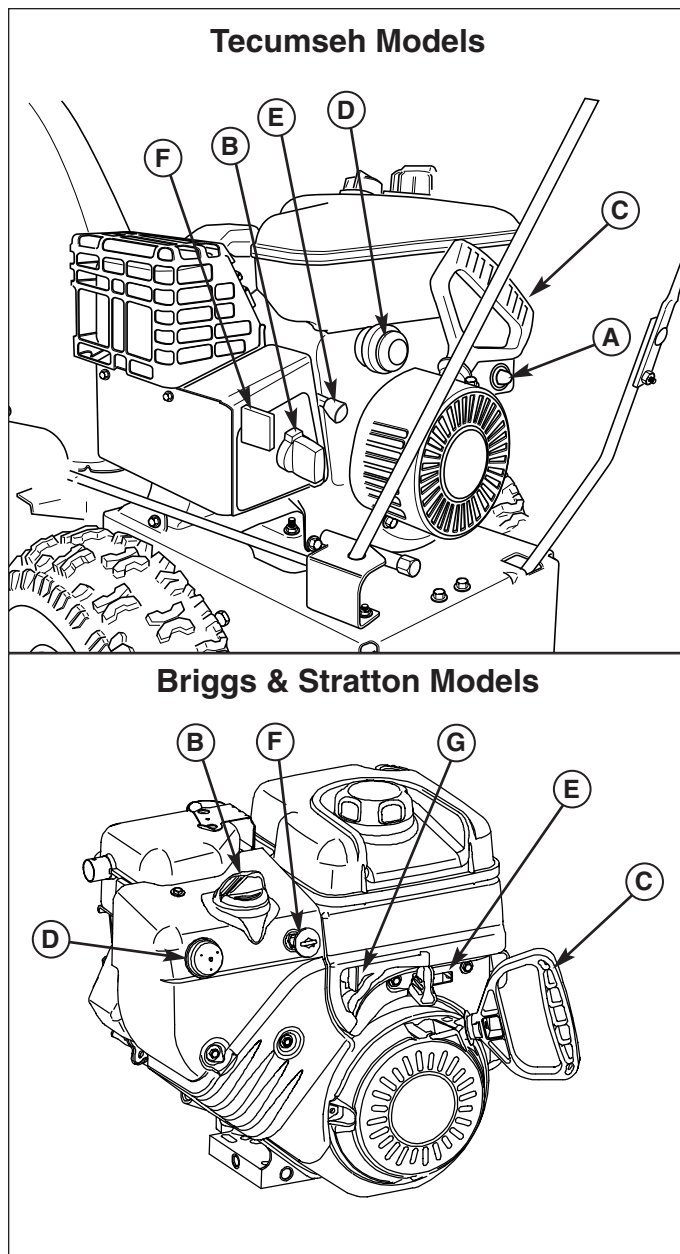

Figure 1. Engine Controls
2. Insert the Engine Key (F, Figure 1) into the Engine Key slot and push fully in to the RUN position.
3. Move the Throttle Lever (E) fully up to the FAST position.
4. Turn the Choke Knob (B) fully clockwise if engine is cold. (Do not choke a warm engine.)
5. Push the Primer Button (D) two times if engine is cold. (Do not prime a warm engine.)